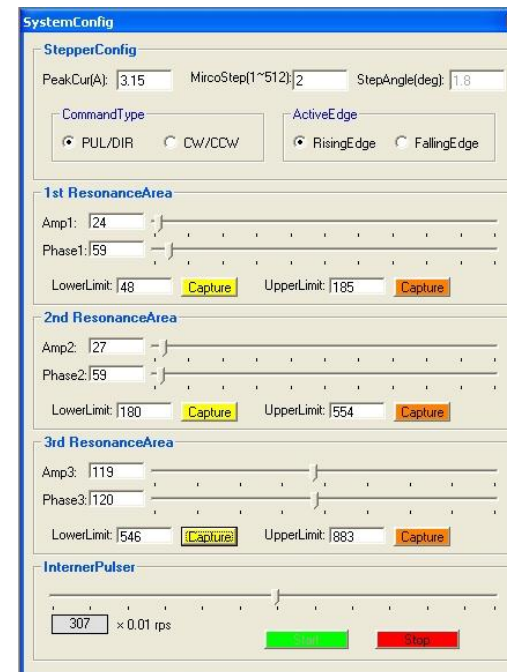

Figure 26: Anti-resonance tuning
**Step 1:** Start the motion test by clicking **Start/Stop** button. Find the **Lower Limit** values and **Upper Limit** values for each resonance area by slightly moving the slider bar of internal pulse generator back and forth, and capture these values for anti-resonance algorithm by clicking **Capture** buttons. See Figure 26.